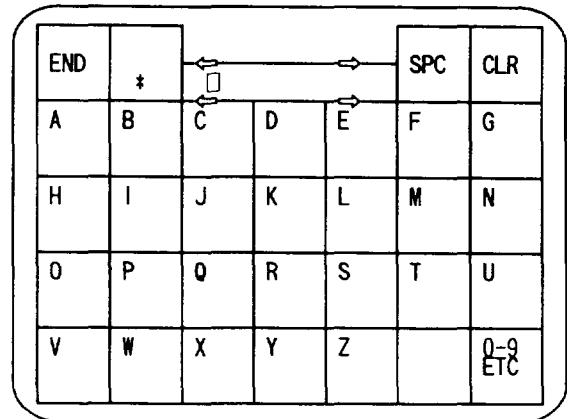

Figure 6-2 A-Z Entry Screen
- ① Press the [NAME] key on the measurement screen (see pages 9 through 14) to display the patient name entry (A-Z) screen (see Figure 6-2).